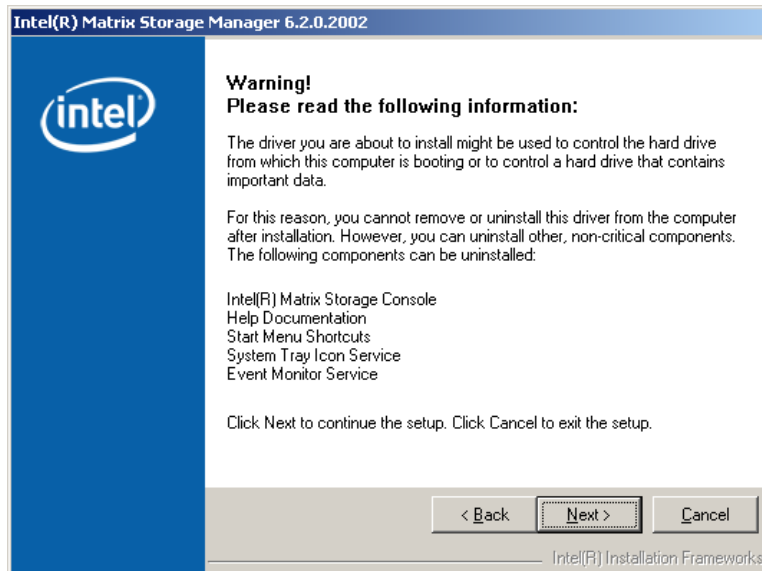

Figure 7-57: Matrix Storage Manager Warning Screen
Step 8: Click **NEXT** and a warning appears (Figure 7-57). Read the warning carefully and